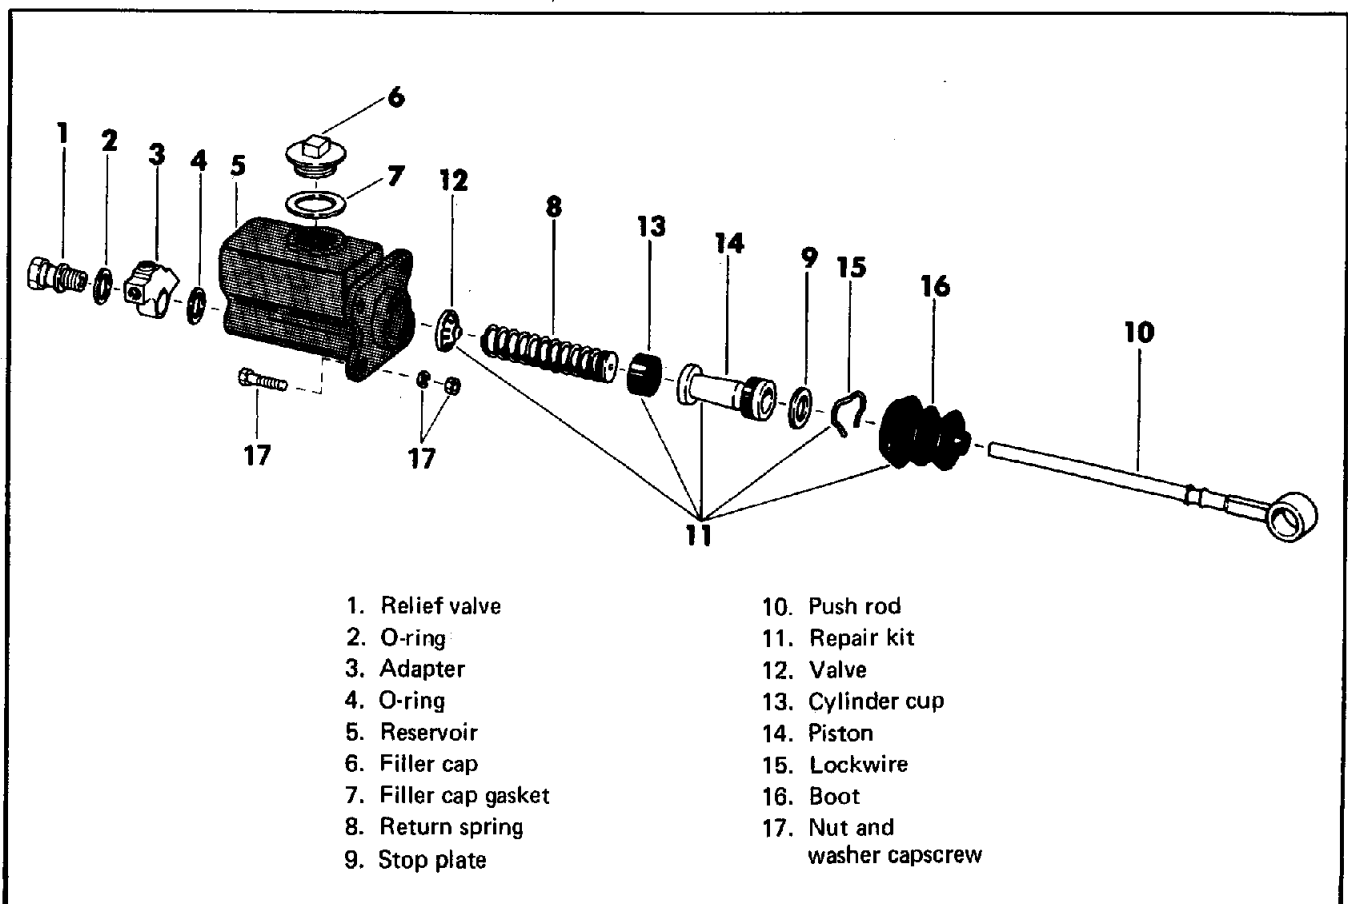

Figure 40. Master Brake Cylinder
Refer to Figure 40 and remove master brake cylinder as follows:
1. Coat ports with clean brake fluid to prevent damage during assembly and to provide initial lubrication. Make sure parts are properly oriented (Figure 40). Be sure that lockwire (lock ring) is properly expanded in the groove.